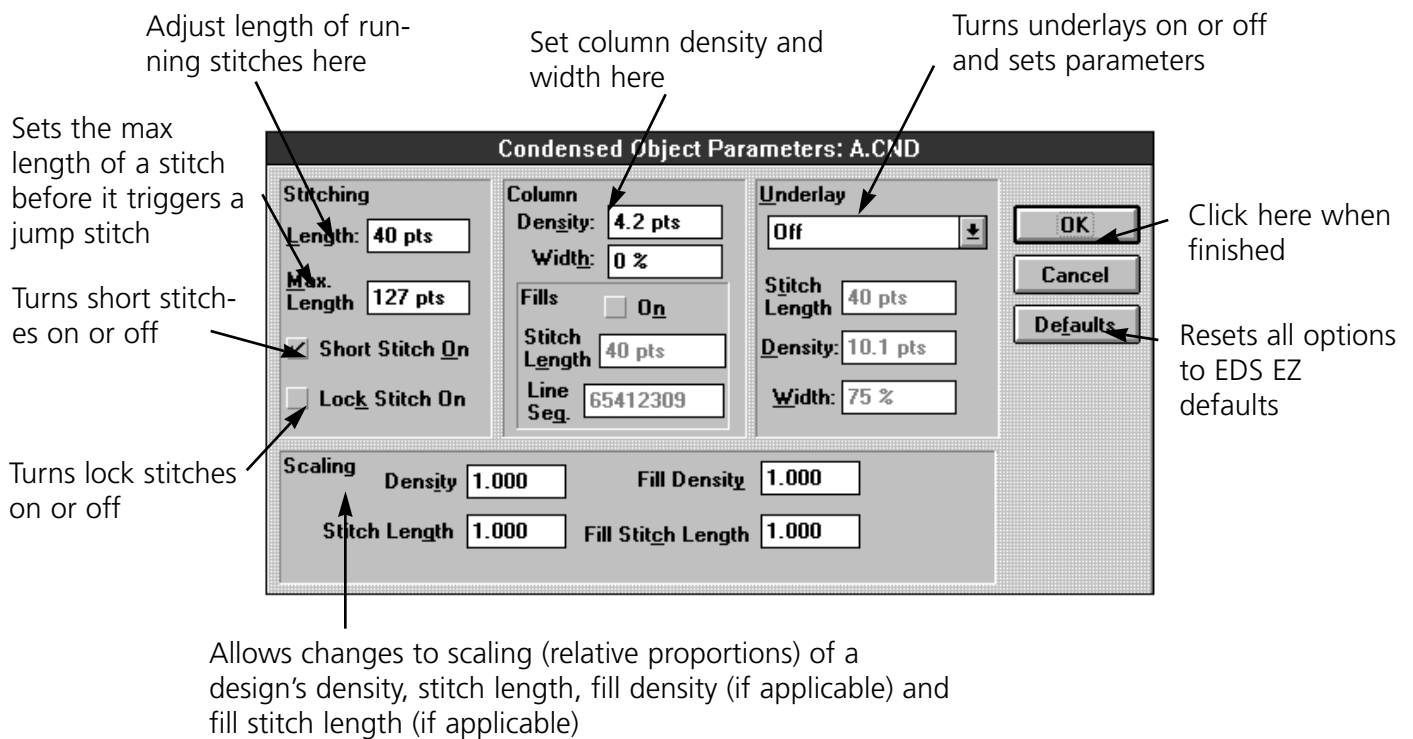

Figure 5-7
2. Double-click on the object to display the Adjust dialog box (Figure 5-7).